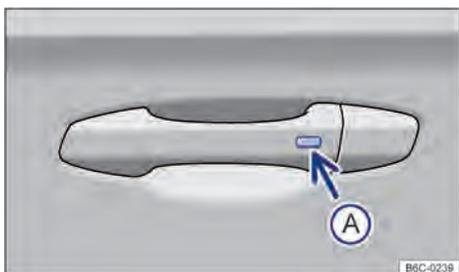

Fig. 50 On the door handle: button to unlock or lock.
- 1 Press the button → Fig. 50 (A) on the outside of the door handle.
- 2 Press the button → Fig. 50 (A) on the outside of the door handle.
- Within 5 seconds, press the button on the outside of the door handle → Fig. 50 (A). So, don't grab the door handle. The Keyless Access locking and starting system is temporarily disabled.